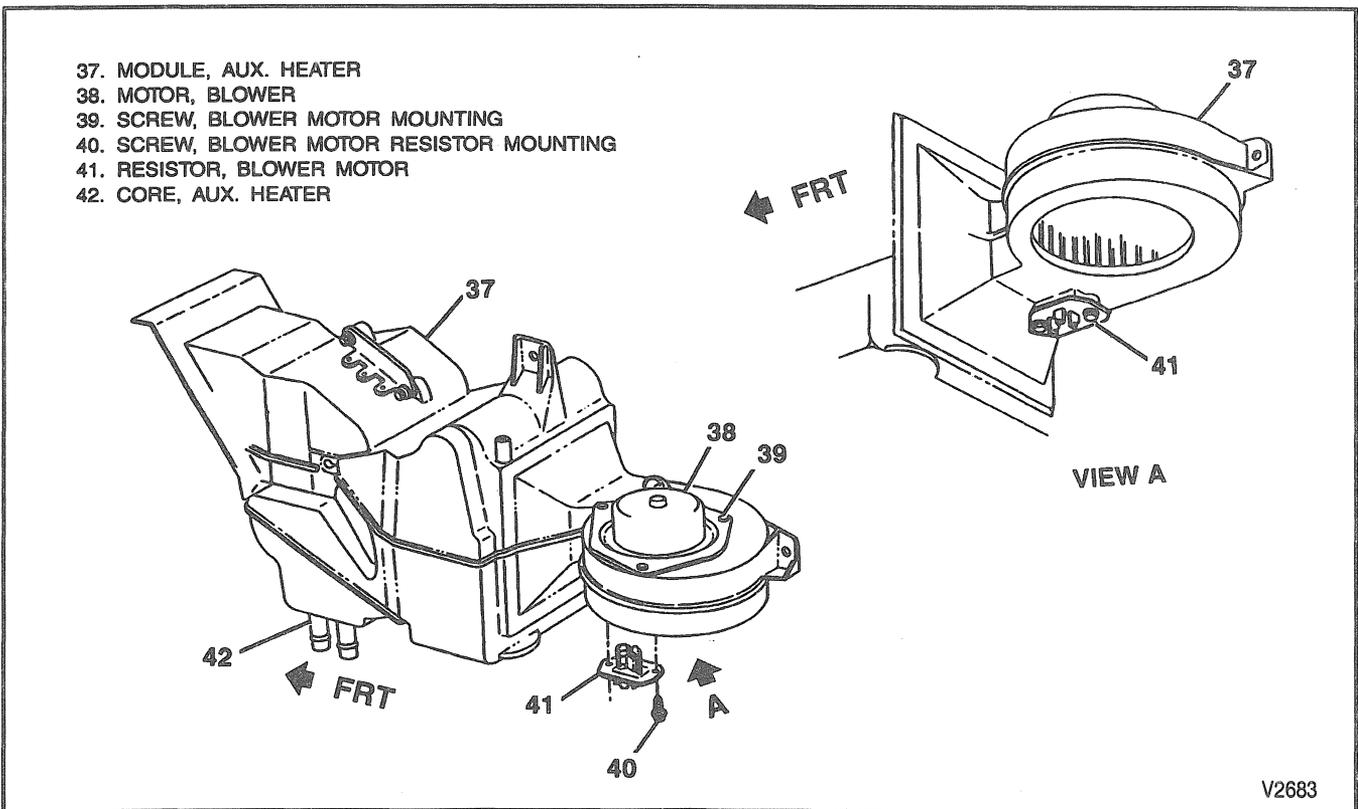

Figure 26—Auxiliary Blower Motor/Resistor
**Remove or Disconnect (Figure 26)**
**Install or Connect (Figure 26)**